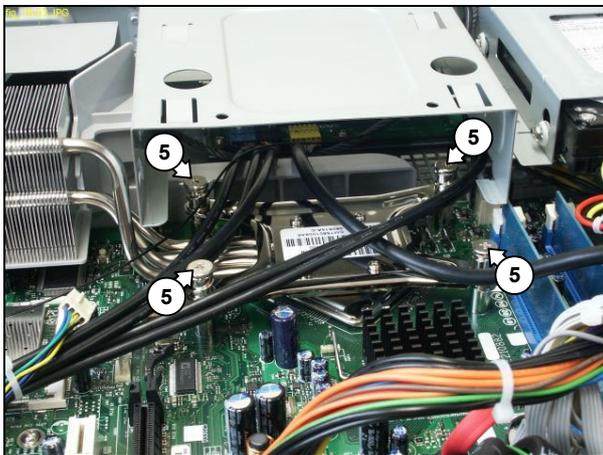

Figure 12.14-3
11. Undo the 4 mounting screws (5) of the CPU heat sink. See Figure 12.14-3.